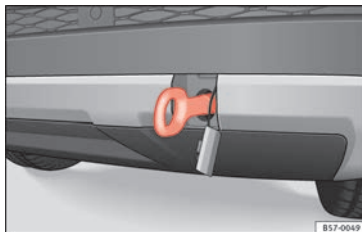

Fig. 100 Rear bumper on right: towline anchor screwed in.
- Screw the towing eye in the housing by turning it to the maximum **anticlockwise** » **Fig. 100** » ①. Use a suitable object that can completely and securely tighten the towing eye in its housing.